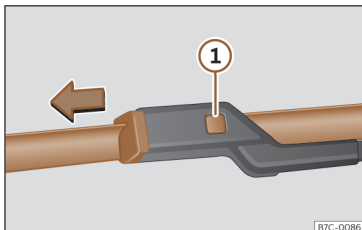

Fig. 45 Changing the windscreen wiper blades
- Press and hold release button >>> **Fig. 45** **1** and pull gently on the wiper blade in the direction of the arrow.